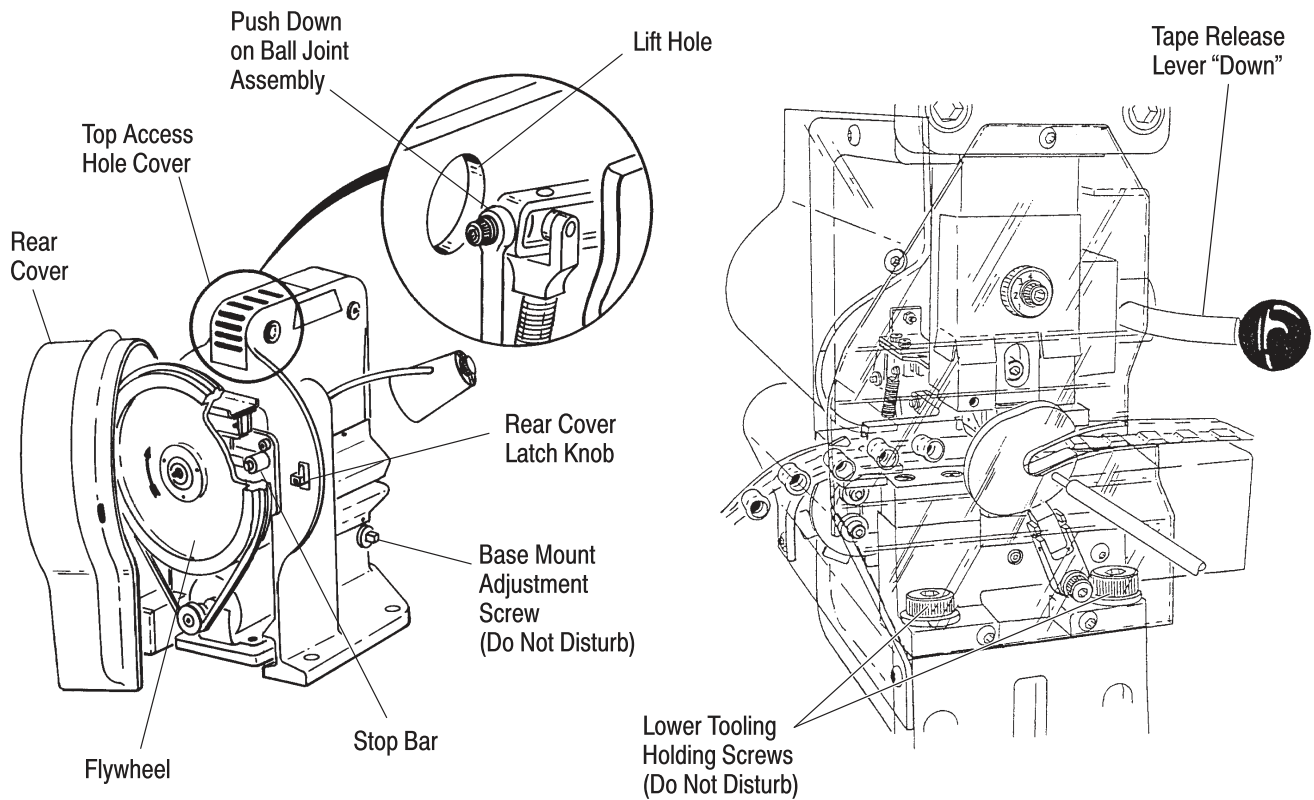

Figure 10
4.1. Hand-Cycling Machine (Figure 10)